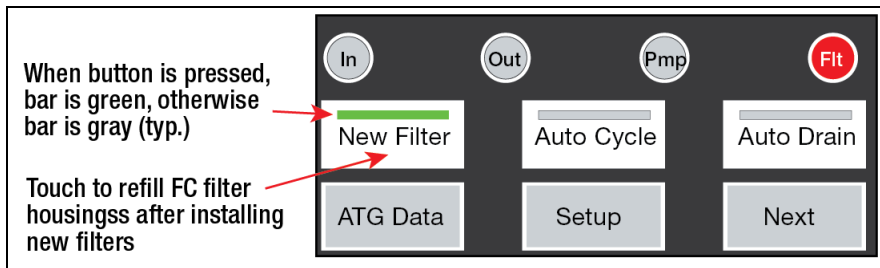

Figure 3.
11. Touch the New Filter button to refill the Fuel Conditioner filter compartments with fuel from the tank and reset the filter End of Life counters (see Figure 3).